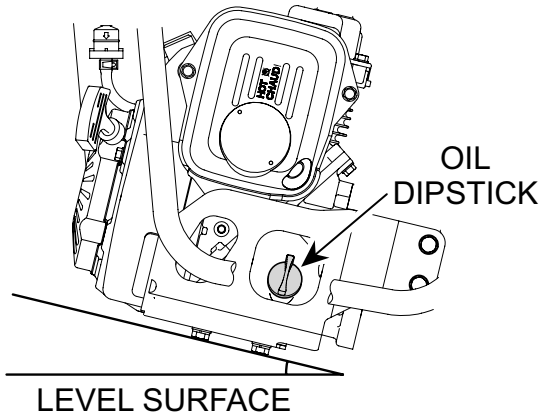

Figure 6. Engine Oil Dipstick
2. Remove the filler cap/dipstick from the engine oil filler hole (Figure 6) and wipe it clean.